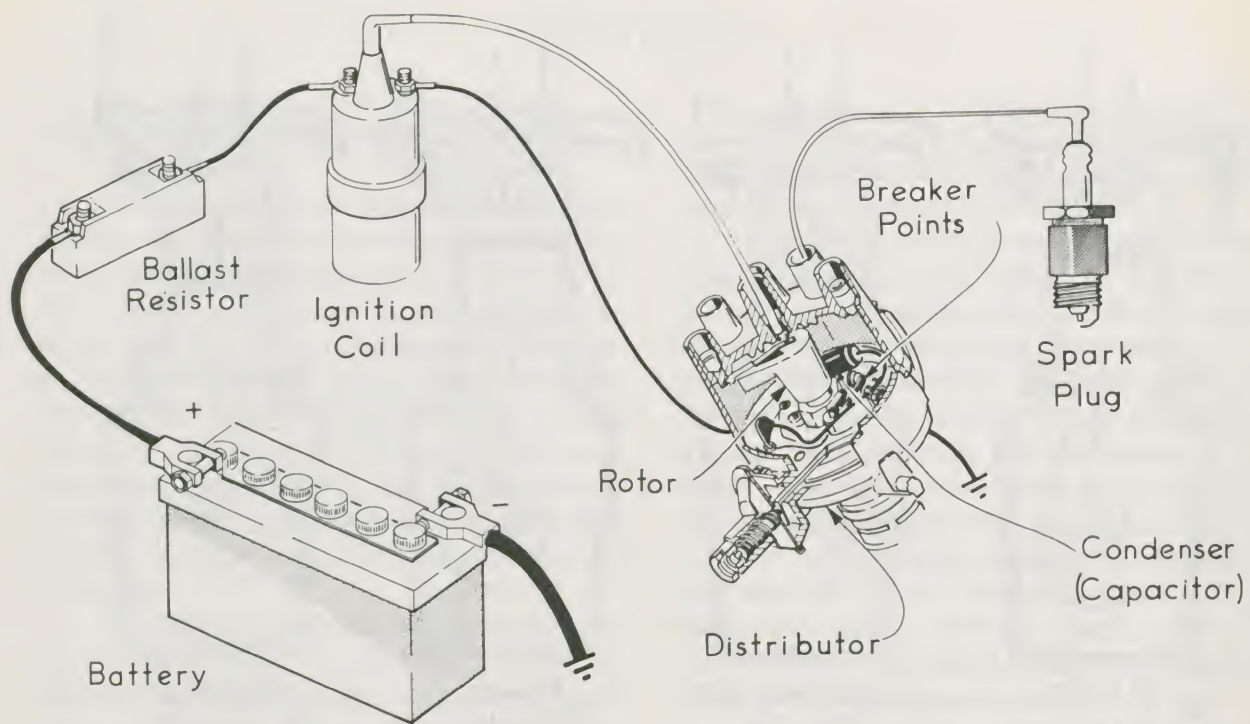

Figure 6.
The ignition system accomplishes these things with five main components: the *battery*, the *coil*, the *distributor*, the *ballast resistor*, and the *spark plugs*. The coil takes electrical energy at low voltage [e.g., 12 volts (V)] from the battery and changes it into electrical energy at high voltage (e.g., 20,000 V). The distributor switches the coil on and off at the right times, and it routes energy to the plugs. The plugs then ignite the air-fuel mixture. The entire system, including the ballast resistor which prevents too-high currents, is shown in Figure 6. At this point you may familiarize yourself with the ignition system by completing Experiment A-1.
The purpose of this experiment is for you to familiarize yourself with the principal components of the ignition system of an automobile. First you should examine the system and identify the following components. Figure 6 will be very helpful for doing this.